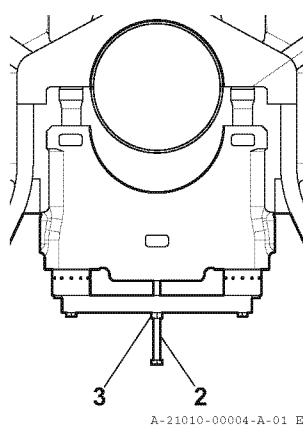

Fig.2 Removing the main bearing cap
9. Turn the nut 3 to remove the main bearing cap. (Refer to Fig. 2.)